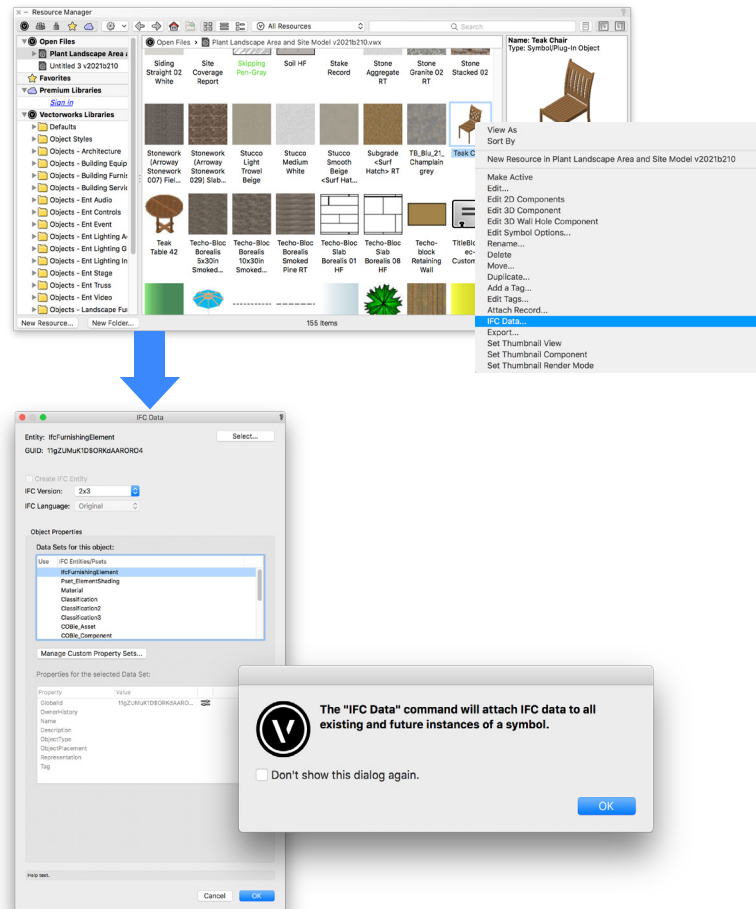

FIGURE 19F: Assigning IFC data to symbols within file
6. When attaching data to a symbol, it may be easiest to do so from within the active file resources in the resource manager. Simply right clicking on the symbol invokes the context menu where **IFC Data** should be selected. Add data by choosing the IFC tag and ensuring that there’s a check mark before the proper pSet. Once accepting the added data by clicking **OK**, a notice will assure you that the data will be attached to all existing and future instances of that symbol (Fig. 19f). This means that any future placement of the symbol will include the data as well.